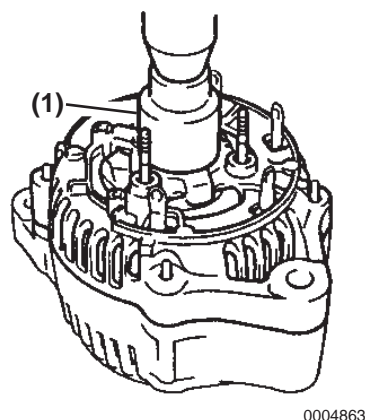

Figure 11-37
3. Slowly press on the rectifier end frame using a 29 mm socket wrench and a press (**Figure 11-37, (1)**).